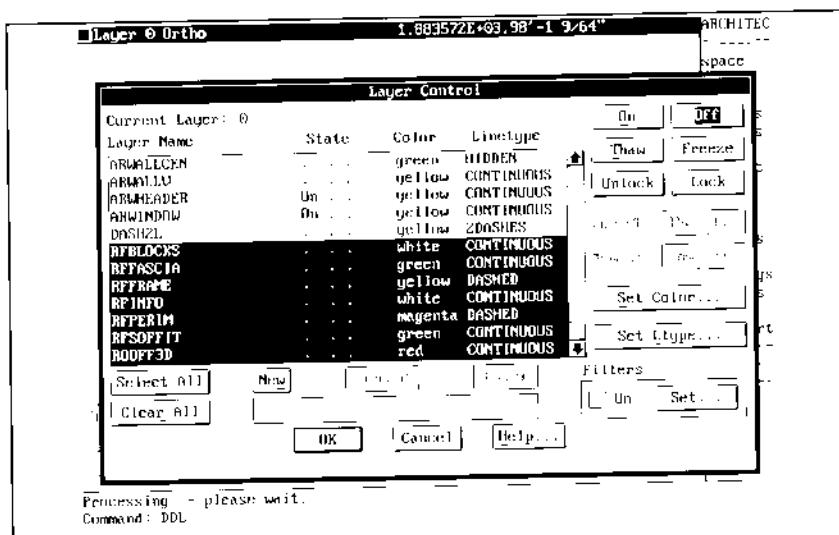
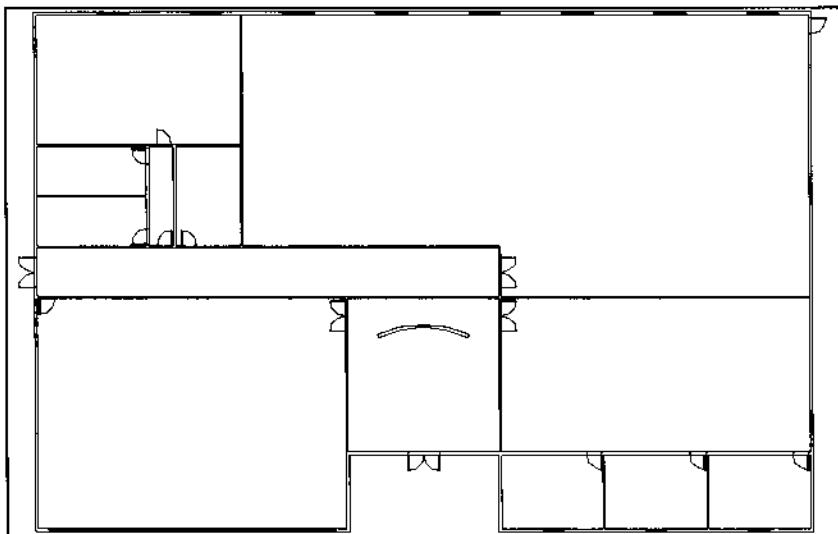

Figure 52.
Figure 53.
8. Turn off all the roof layers, as shown in Figure 52, then pick OK. The drawing should now appear as it is in Figure 53.